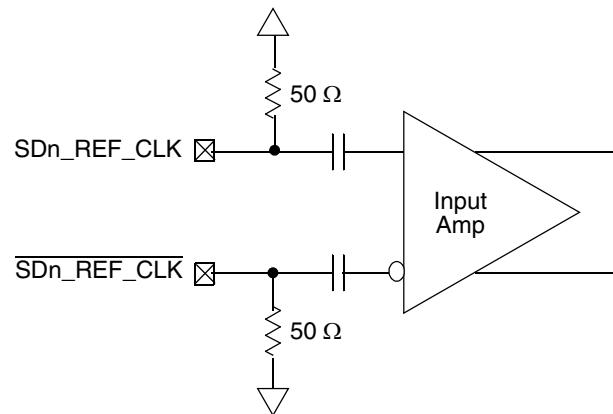

Figure 58. Receiver of SerDes Reference Clocks
Figure 58 shows a receiver reference diagram of the SerDes reference clocks.
- The SDn_REF_CLK and $\bar{SDn_REF_CLK}$ are internally AC-coupled differential inputs as shown in Figure 58. Each differential clock input (SDn_REF_CLK or $\bar{SDn_REF_CLK}$) has a 50Ω termination to SGND (xcorevss) followed by on-chip AC-coupling.